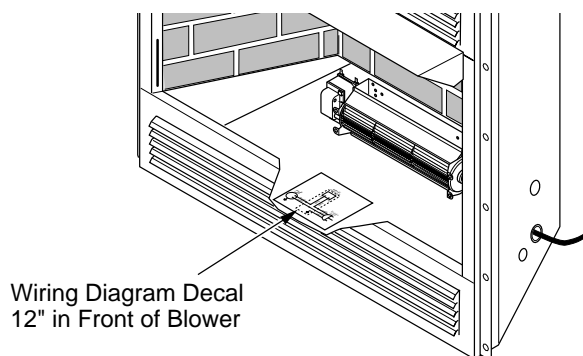

Figure 27 - Location of Wiring Diagram Decal (Model May Vary From Illustration)
10. Peel off the backing paper and stick the supplied wiring diagram decal on the firebox bottom approximately 12" in front of the blower (see Figure 27).
11. Peel off the backing paper and stick the supplied wiring diagram decal on the firebox bottom approximately 12" in front of the blower (see Figure 27).